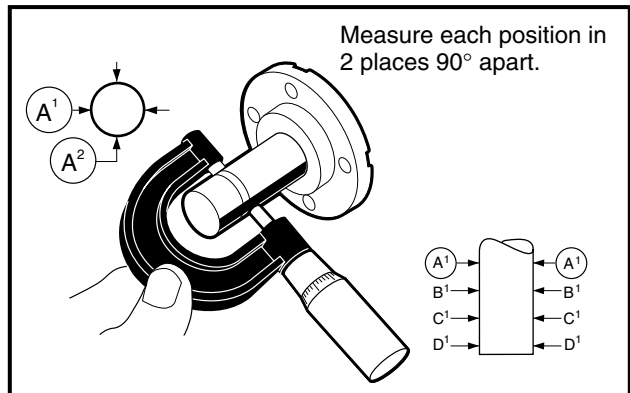

Figure 2-77 Measure O.D. of Counterbalance Guide Shaft
2. Use an outside micrometer to measure the outside diameter of the guide shaft surface (**Figure 2-77, Page 2-34**).